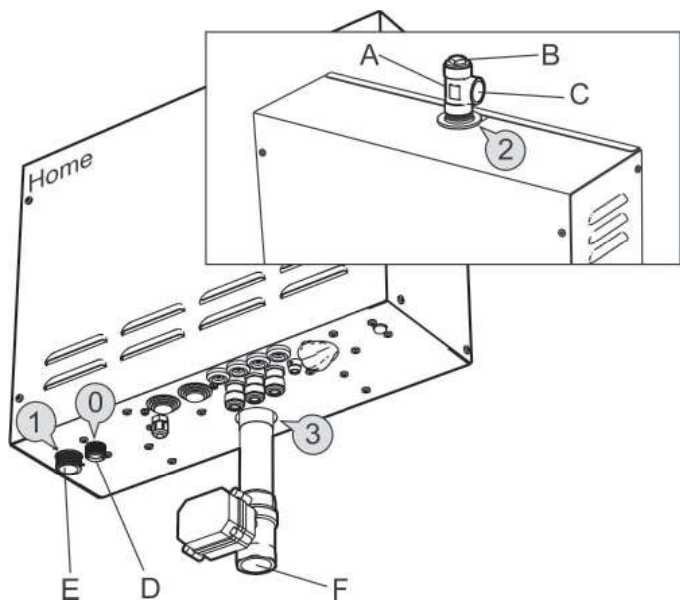

Fig. 6 Home type steam generator
Connect cold water to connection 1 (Fig. 6,7) on the steam generator. The incoming water pressure must be between min. 0.2 and max 10 bar (min. 20kPa and max 1000kPa).
Fit the connector, with the lock nut uppermost, to steam outlet 2 (Fig. 6,7) on the steam generator. Connect a copper pipe, with an internal diameter of at least 18mm, to the connector steam outlet (C). The steam pipe can have a down-slope either towards the steam room or towards the steam generator. Alternatively the steam pipe can be installed with a slope down towards both the steam room and towards the steam generator.
For drainage connect a copper pipe of good quality and an internal diameter of at least 25 mm to connection 3 (Fig. 6, 7) on the steam generator. The steam generator drain pipe is led to the nearest drain outside the steam room. The temperature of the water being drained is about 80-85°C.
A draining pipe connected to the safety valve D (0) (Fig. 6 and 7) is to be installed in a continuously downward direction and in a frost-free environment.